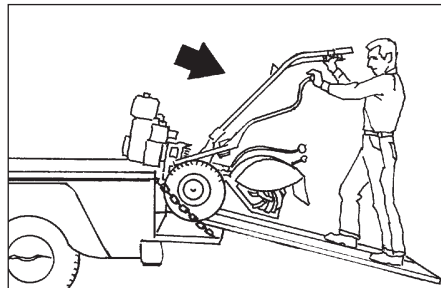

Figure 4-8: To go down ramps, use **REVERSE** drive.
5. Move and hold the Wheels/Tines/PTO Lever into REVERSE drive and back down the ramps (Figure 4-8). Check the wheels as you move the tiller backward. Ensure that they move down the center of each ramp.